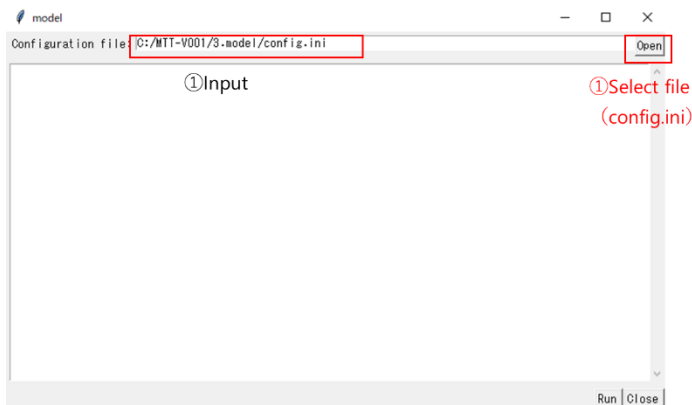

Fig. 5.16 Selecting the config file
- (d) When the screen shown in Fig. 5.16 appears, click "Open" in the upper right corner, and select the configuration file (config.ini) of the model you just created. You can also directly key in the text display area of the file path.